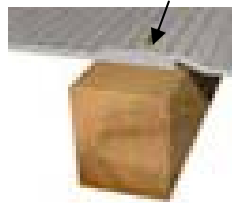

Fig 3
6. It is **IMPORTANT** to cover all joints with ACTIS ISODHESIF tape to give an air tight finish. Fig 3